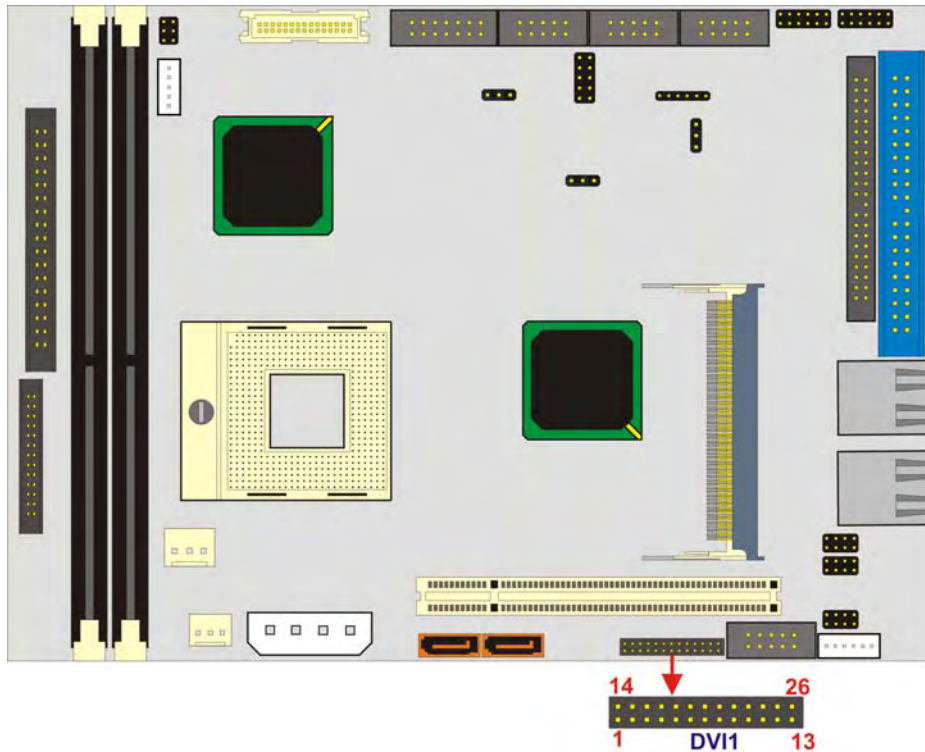

Figure 3-8: DVI Connector Location
- CN Location:** See **Figure 3-8**